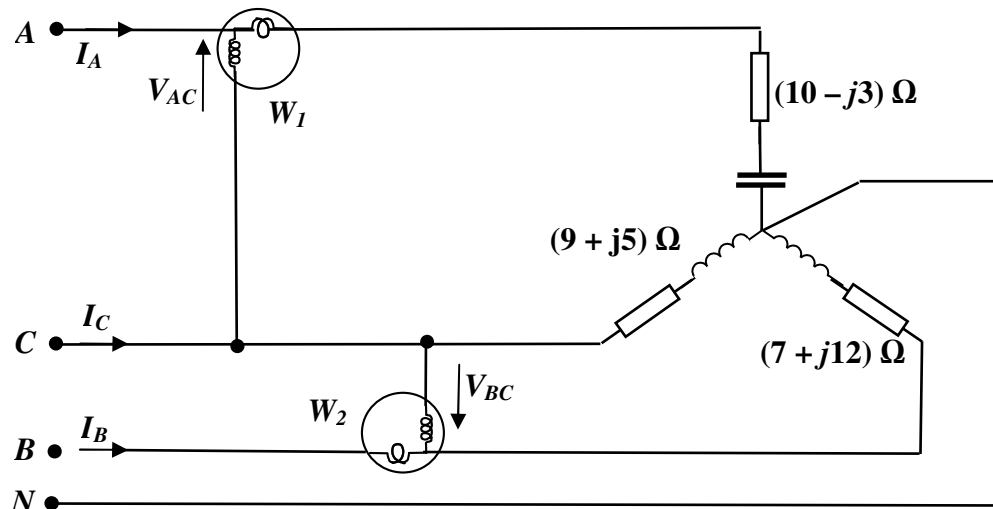

Figure A3.1
A star-connected load is supplied via a balanced 400V, 3-phase, 4-wire supply of phase sequence ABC . The 3-phase load consists of three single phase loads of $(10 - j3)\Omega$, $(7 + j12)\Omega$ and $(9 + j5)\Omega$, connected between lines A, B, C , and the neutral respectively as shown in Figure A3.1. All the supply lines and the neutral wire have negligible impedance.
- a. Calculate the magnitude and phase of the three line currents and the neutral current. State which voltage you have taken as reference. (2)
- b. Two wattmeters are installed to measure the total input power to the load. One is connected with its current coil in line A and its voltage coil between lines A and C , the other with its current coil in line B and voltage coil between lines B and C , as illustrated in Figure A3.1.
- (i) Sketch a phasor diagram showing the voltages and currents which are measured by the two wattmeters and their respective phase angles. (3)
- (ii) Hence, calculate the readings on the two wattmeters and the sum of the two wattmeter readings. (2)
- (iii) What percentage error, if any, would be incurred if it was assumed that the sum of the two wattmeter readings gave the total input power to the system? (2)
- (iv) Briefly describe a more appropriate method of measuring the total 3-phase power. (1)
- (i) Using a star-delta transformation or otherwise calculate the three line currents and the voltage across each phase for this condition. State which voltage you have taken as reference. (7)
- (ii) Hence, calculate the readings on the two wattmeters. (2)
- (iii) Verify that the sum of the power readings on the two wattmeters measures the true power dissipated in the unbalanced three-phase load. (1)